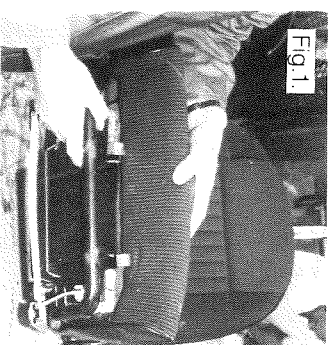

Fig. 1.
2. Remove the seat base from the seat frame. Undo two C-clips from the front of the base and withdraw the base from its frame (Fig. 1).